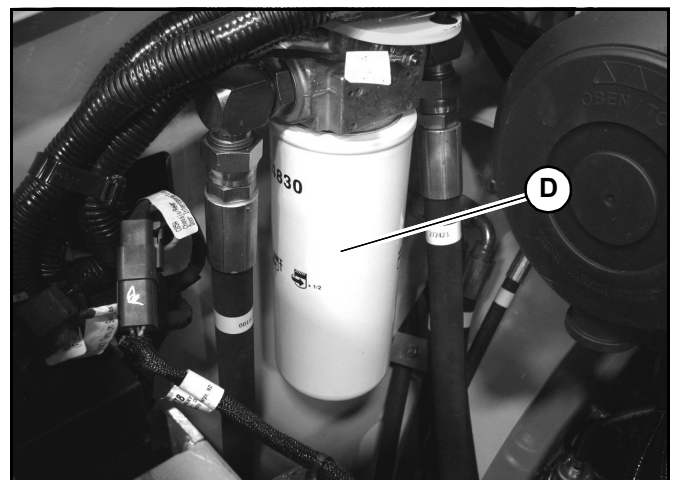

Fig. 100 – Hydraulic Oil Return Filter
6. Remove the hydraulic oil return filter (D, Fig. 100), using a filter wrench of necessary. Carefully clean the filter head mounting surface with a clean cloth.